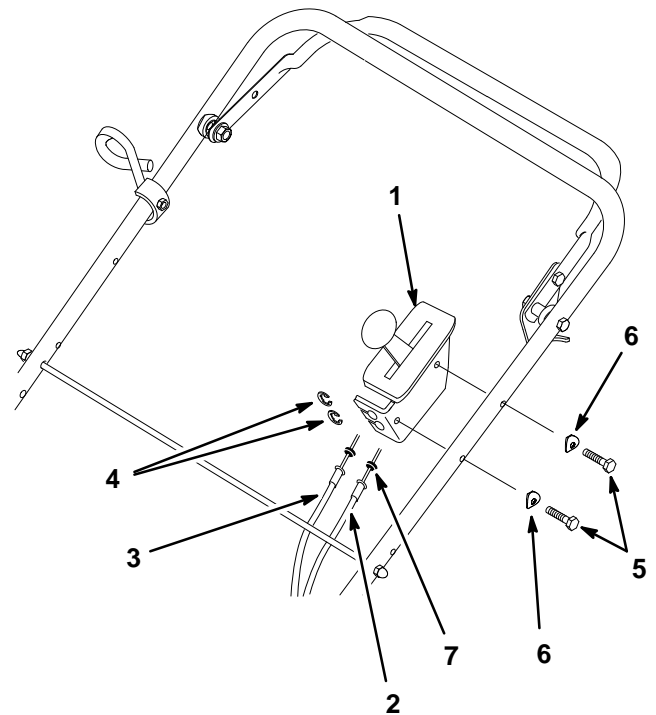

Figure 12
1. **HP Models Only** – Disconnect brake cable from throttle control by removing E-ring (Fig. 12). Discard E-ring.
2. **SP Models Only** - Disconnect traction cable from throttle control by removing E-ring (Fig. 12). Discard E-ring.
3. Remove (2) hex head screws and (2) curved washers securing throttle control to handle (Fig. 12). Retain screws and washers. Discard throttle control and throttle cable.
4. Install new throttle control using (2) hex head screws and (2) curved washers previously removed.
8. Make sure seals on cables are pushed down tight (Fig. 12).